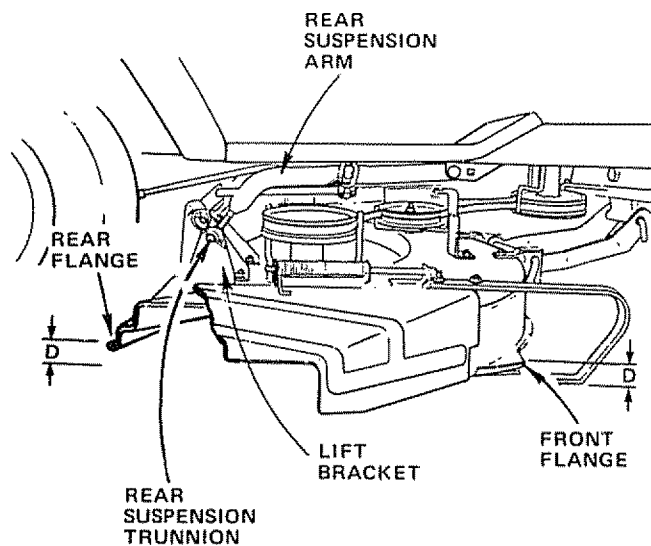

FIGURE 17
1. To obtain the best cutting results, your Mower Housing should be adjusted so the Front and Rear Flange distance "D" (Fig. 17) is 5/16" lower in front when the mower is positioned in the highest cutting position.